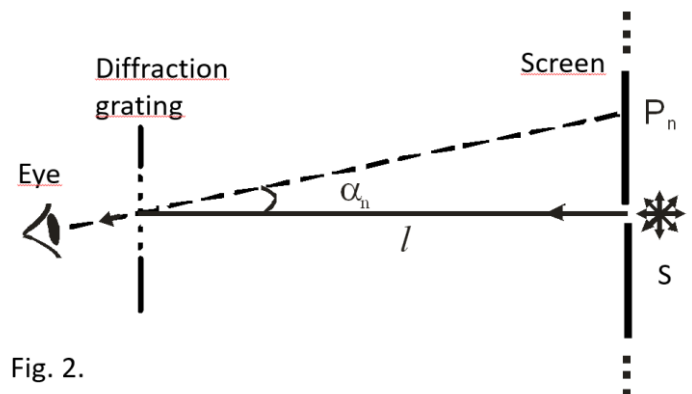

Fig. 2.
The scheme of the equipment setup is shown in Fig. 2. The light emitted by the S source passes through the slit in the screen and reaches the diffraction grating, placed on the stand at a distance l from the screen. The diffraction grating is set parallel to the screen, and the scratches should be at the height of the slit (the direction of the scratches, like the slit in the screen, must be vertical). Behind the diffraction grating, the lens of the observer's eye creates an image of the diffracted picture on the retina. The observer will see a series of stripes of different colours on the right and left sides of the slit.
3. Calculate the sine of the deflection angle α , (see Fig. 2):